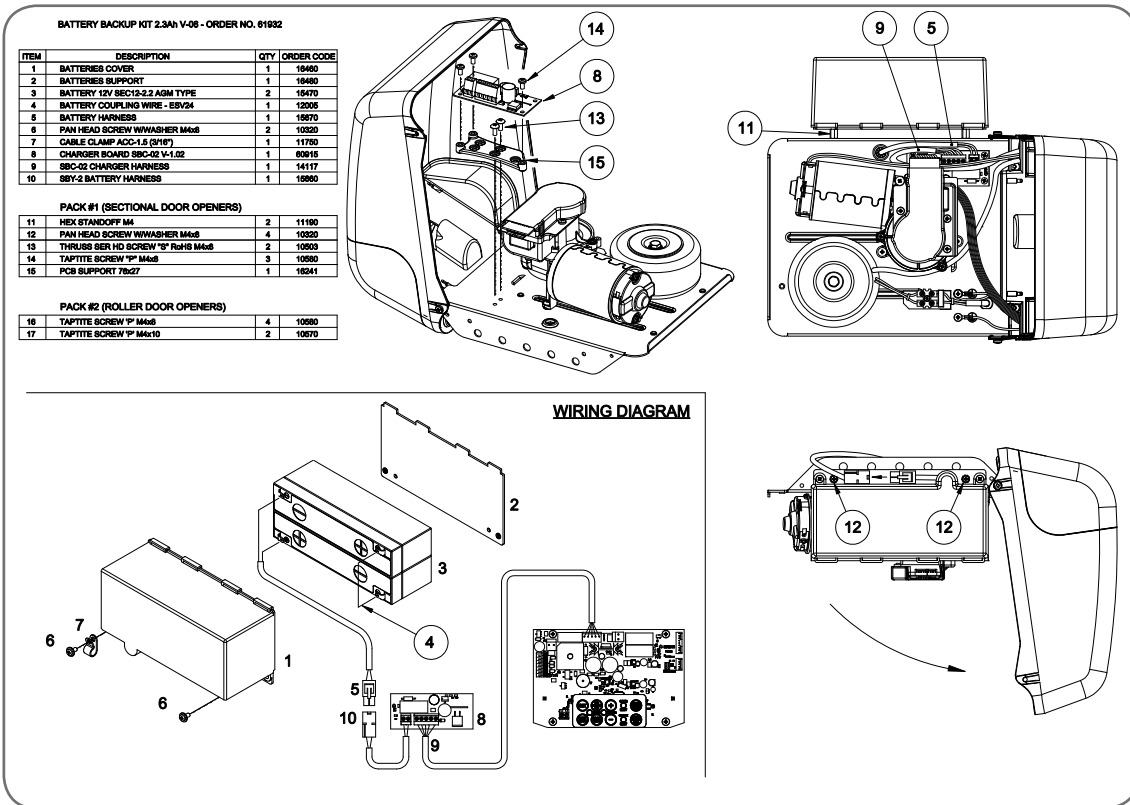

fig 44
- Remove screws and swing open the cover (Fig 44).
- Mount the PCB support with two screws item # 13. Secure the SBC0-2 Charger Board onto the PCB support with three (3) screws item #14.
- Mount Battery Backup and secure with item 11 and 12.
- Connect battery harnesses item 5 and 10 together (Fig 44).